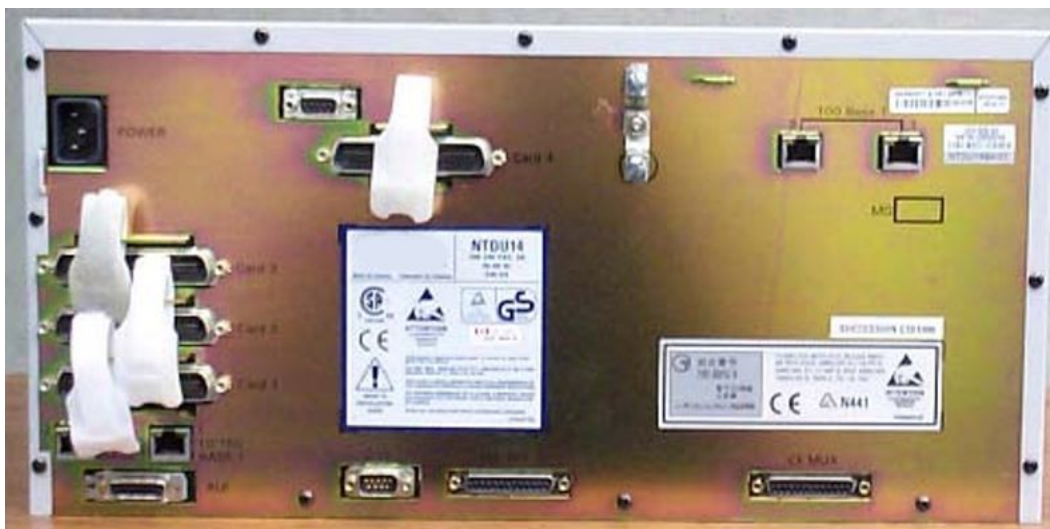

Figure 51: MG1000 chassis
1. Connect the MGC DECT Clock Reference Cable to the AUI port of the back of the MG1000 chassis. Figure 51: MG1000 chassis on page 219 shows the AUI port of the MG1000 chassis.